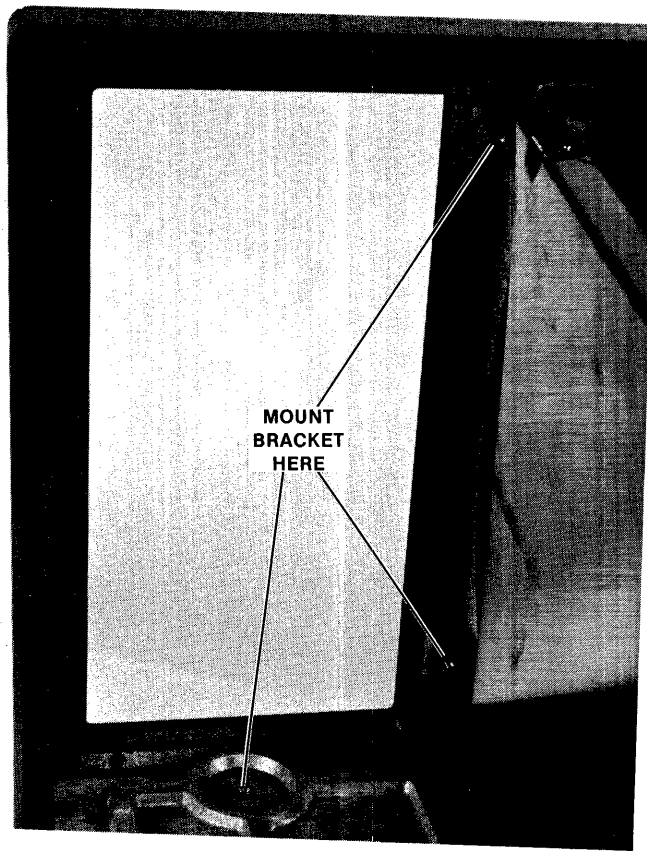

Fig. 4-13 Bracket Installation
6. Install the disk drive bracket to the inboard holes next to the CRT. See Figure 4-13.